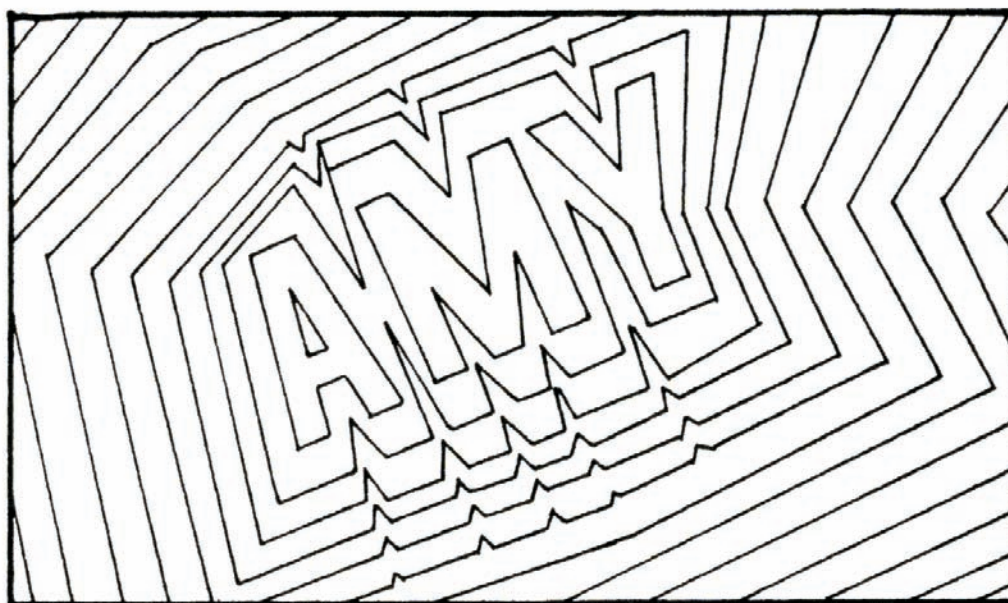

Figure 1.11.
1. Print your first name in block letters diagonally across a 9-x-12-in. sheet of paper (see Figure 1.11).